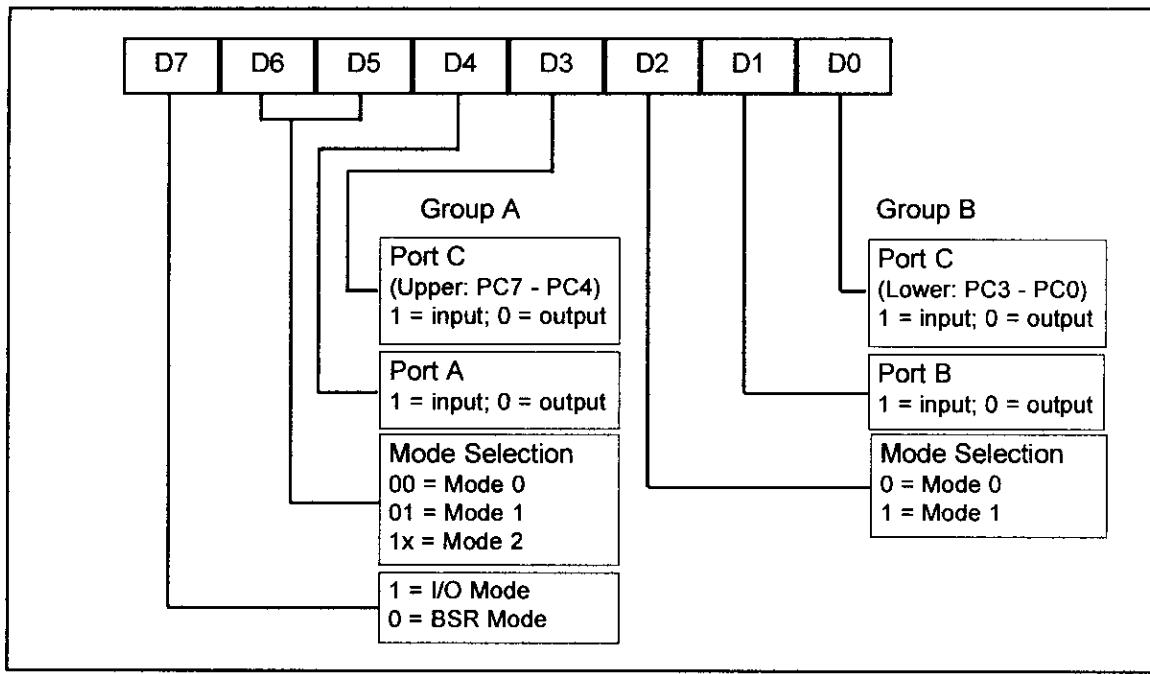

Figure 11-12. 8255 Control Word Format (I/O Mode)
Notice from Figure 11-12 that we must set D7 = 1 to get the above I/O modes of 0, 1, and 2. If D7 = 0, we have BSR mode. In BSR (bit set/reset) mode, the bits of port C are programmed individually. This mode is also rarely used.
The 8255 chip is programmed in any of the above modes by sending a byte (Intel calls it control word) to the control register of the 8255. For example, to make ports A, B, and C output ports, we make D7 = 1 according to Figure 11-12. To select simple I/O mode of 0, we need 1000 0000 as the control word. Similarly, to get PB as input, and PA and all of PC as output, we must have 1000 0010 or 82H for the control word. Examples 11-4, 11-5, and 11-6 demonstrate how the 8255 chip is programmed. Study these three examples in detail since they will be the basis of many lab assignments.
- (a) From Figure 11-12 we get the control word of 1000 0011 in binary or 83H.